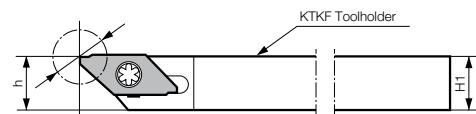

Fig.3 When TKF-NB installed
2) When the edge height can not be adjusted, please use TKF-NB insert. (Fig.3)